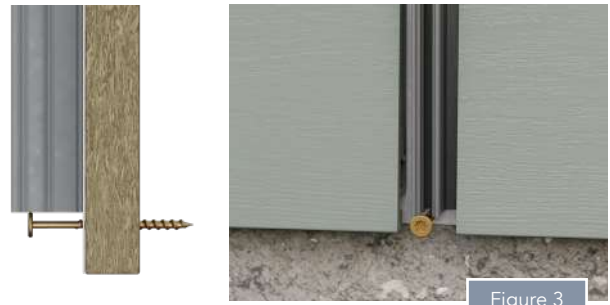

Figure 3
- Insert a stop fastener at the bottom edge of the Trim Receiver pocket (Figure 3).